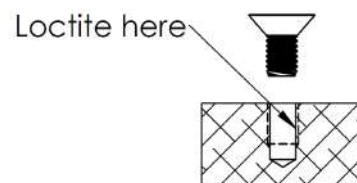

Fig.2 Blind Hole
3. For blind holes, apply threadlocker on thread hole (fig 2).